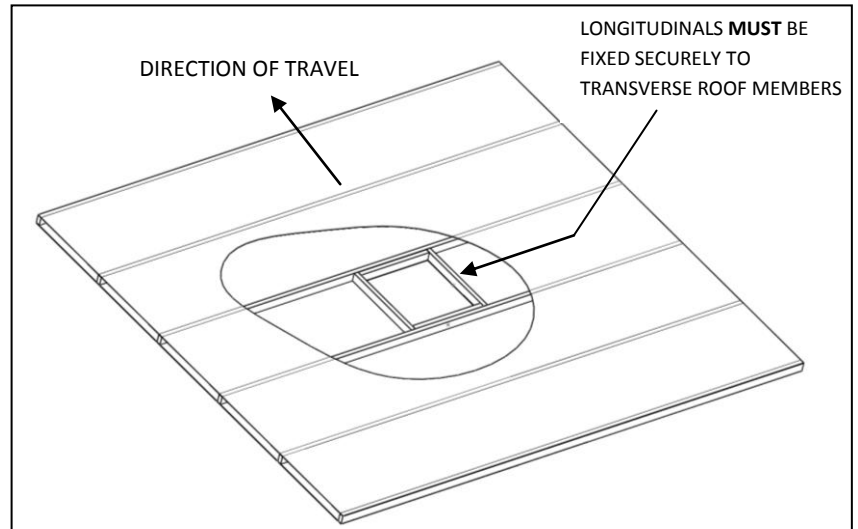

Fig 3: Shows an ideal roof structure with strong longitudinals and a 14' hole boxed
- The square hole in the roof (356 x 356mm, 14” x 14”) **MUST** be boxed up with minimum 20mm square timber to provide a structure strong enough to withstand the compression of the installation bolts. This is also to ensure that air is not drawn from the roof cavity (Fig 3 & 4). Remember to leave access for wiring.
- Longitudinals **MUST** be fixed securely to the transverse roof members to transfer load (see Fig 3).